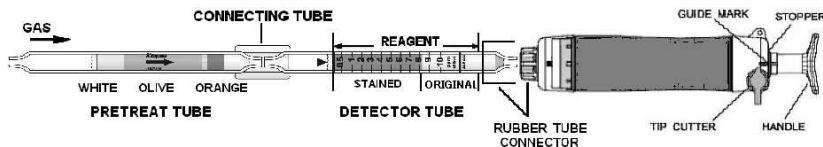

Fig.1
- ① Break both ends of the detector tube and pretreat tube, and connect each end of the detector tube and pretreat tube with connecting tube as shown in Fig.1.
- ② Insert the detector tube into the aspirating pump securely as shown in Fig.1. (Arrow mark shall point to the pump.)
- ③ Align the guide marks on the shaft and stopper of the aspirating pump.
- ④ Pull the pump handle at a full stroke until it locks and wait for 2.5 minutes or until the completion of sampling is confirmed with the flow indicator of the pump. (See descriptions about the flow indicator in the instruction manual of the pump.)
- ⑤ On completion of sampling, read the scale at the maximum point of the stained layer.
- ⑥ When the concentrations are below the scale range, 3 pump strokes can be used to determine these lower concentrations.
- ⑦ When the concentrations are over the scale range, a 1/2 pump stroke can be used to determine these higher concentrations.